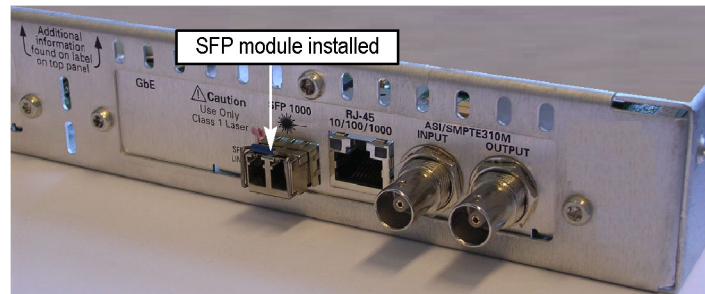

Figure 7: SFP module – installed
2. Insert the SFP module into the rear-panel SFP 1000 connector. (See Figure 7.) When fully inserted, the SFP module is latched in position.